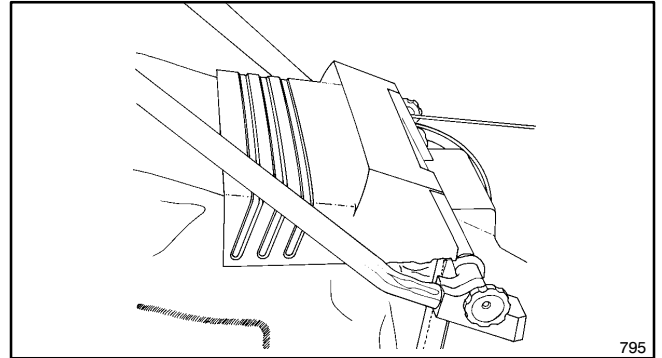

Figure 6
2. Allow discharge door to rest on top of bag (Fig. 6).